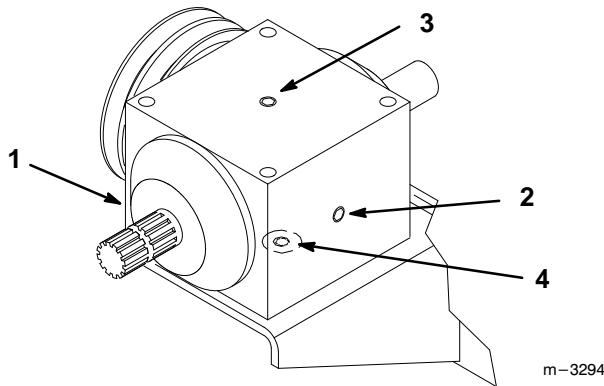

Figure 22
2. If level is low, remove top plug and add until level is up to side plug in gearbox. (Fig. 22).